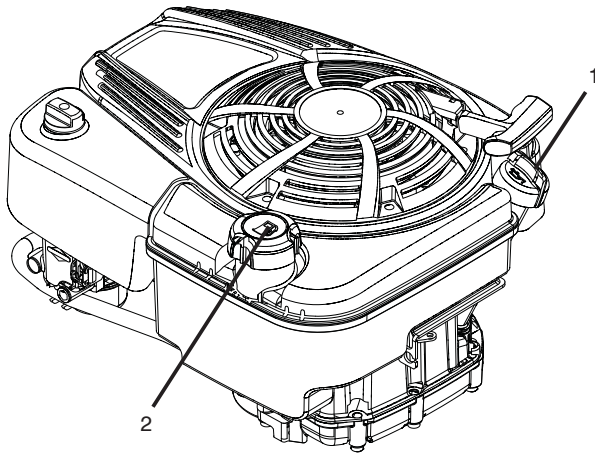

Figure 12
2. Remove dipstick from oil fill spout (Figure 12).
IMPORTANT: Fill fuel tank to bottom of tank filler neck. Do not overfill. Use fresh, clean, regular unleaded gasoline with a minimum of 87 octane. Do not mix oil with gasoline. Purchase fuel in quantities that can be used within 30 days to assure fuel freshness (Figure 12).